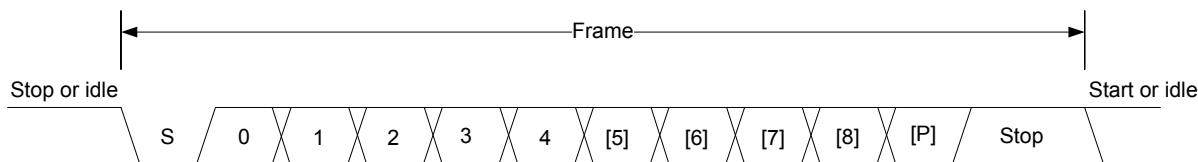

Figure 18.2. USART Asynchronous Frame Format
The frame format used in asynchronous mode consists of a set of data bits in addition to bits for synchronization and optionally a parity bit for error checking. A frame starts with one start-bit (S), where the line is driven low for one bit-period. This signals the start of a frame, and is used for synchronization. Following the start bit are 4 to 16 data bits and an optional parity bit. Finally, a number of stop-bits, where the line is driven high, end the frame. An example frame is shown in Figure 18.2 USART Asynchronous Frame Format on page 552.